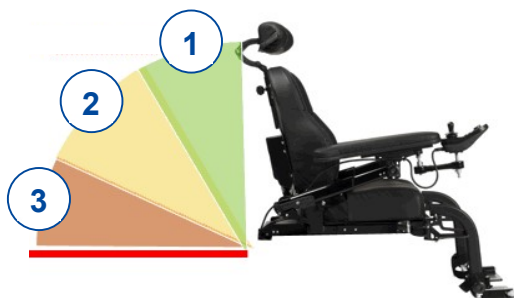

Figure 3 **Backrest inclination**
- the backrest inclination exceeds a certain angle (see Figure 3):